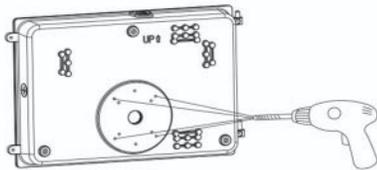

Fig. 1-2A
2. Drill an installation hole at the bottom of fixture, paste the EVA mat. (Fig. 1-2A&B)